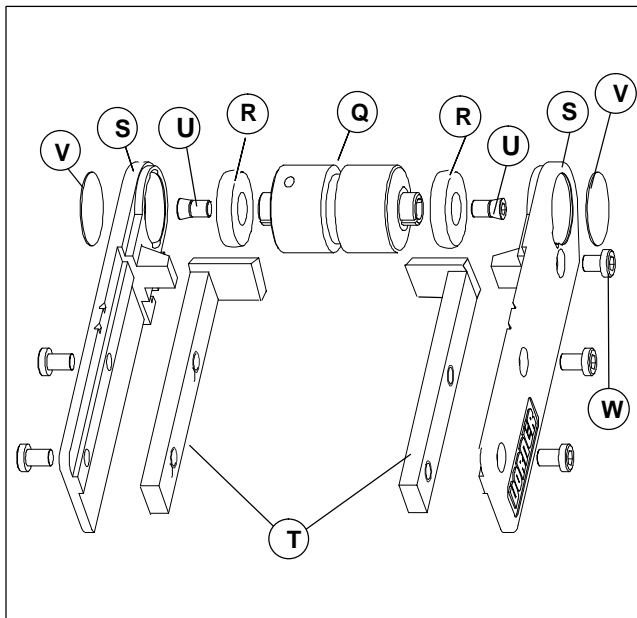

Figure 16
3. Insert slide bars (T of Figure 16) into 2100 frame.
5. Loosely thread (2) taper screws (U of Figure 16) into pulley (Q).